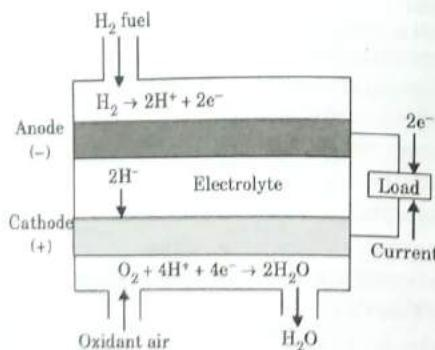

Fig. 3.15.1. Fuel cell operation.
1. A basic hydrogen-oxygen fuel cell with phosphoric acid as electrolyte is shown in Fig. 3.15.1.